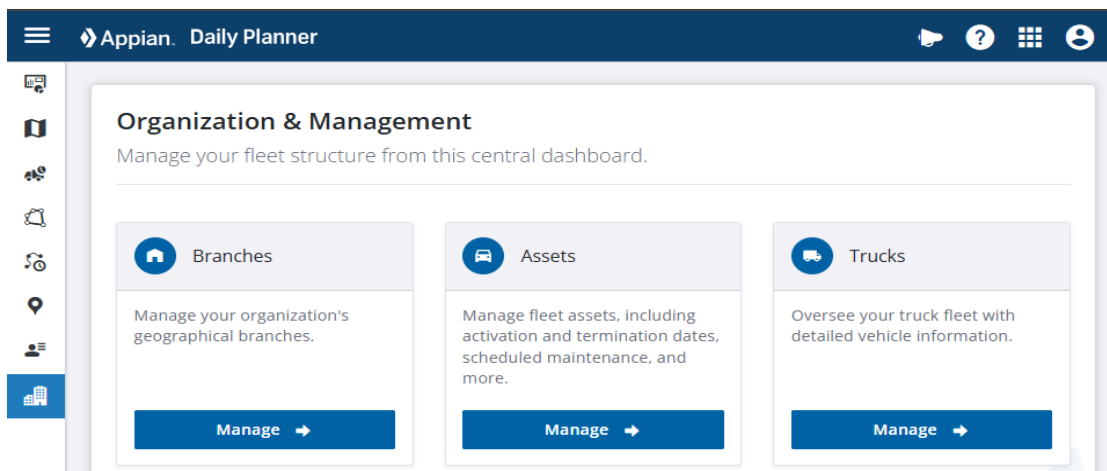

Figure 1 - Organization & Management page
- **Sidebar** — Click on the hamburger button (three lines) to access other topics (See *Figure 1* below):